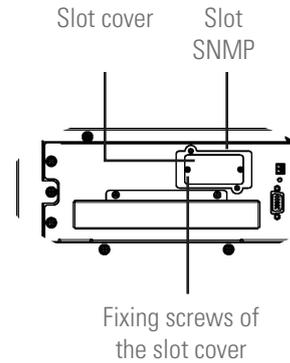

Fig. 65. Slot for SNMP in 6-slot sub-rack for power modules.
- On the sub-racks of 6 power slots, it is located on the back of the device (see Fig. 65).